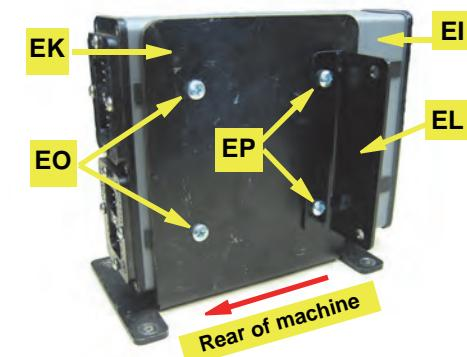

Figure 1c: Installed ECU and controller bracket (viewed from driver's seat side)
- Using the shorter hardware **EO** through the rear-most holes in bracket **EK**, attach **EI** (cable connectors rearward) loosely to the inside face of bracket **EK** (Figure 1c - viewed from driver's seat side).
- Using the longer hardware **EP** through the narrow side of bracket **EL** (wider side forward) and the remaining holes in bracket **EK**, secure **EI** and **EL** to **EK** (Figure 1c). Tighten **EO** and **EP**.